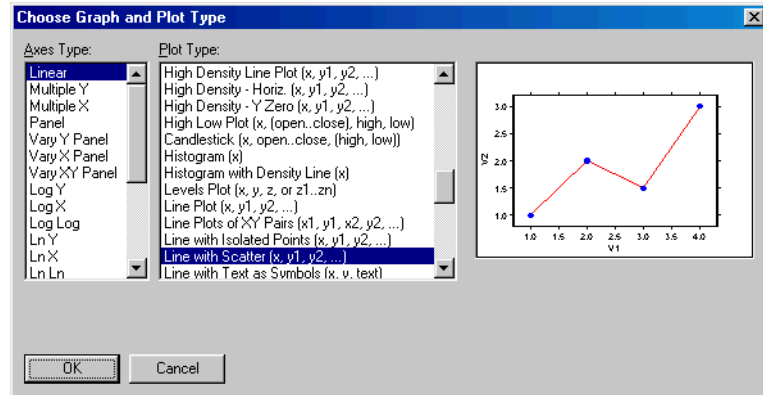

Figure 10.17: The *Choose Graph and Plot Type* dialog.
4. The default plot type is a linear line-with-scatter plot, which takes one input. This plots a single column vector against a set of indices. If you want the default plot type, click **Finish**. If you want to change the plot type, click the **Choose Axis/Plot Type** button to open the **Choose Graph and Plot Type** dialog, as shown in Figure 10.17.